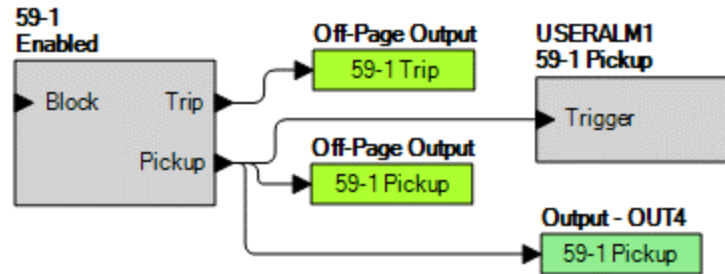

Figure 2-19. OUT4 and USERALM1 with User-Defined Labels
Step 13: Figure 2-19 shows the user-defined labels of OUT4 and USERALM1 that were named in Steps 11 and 12.